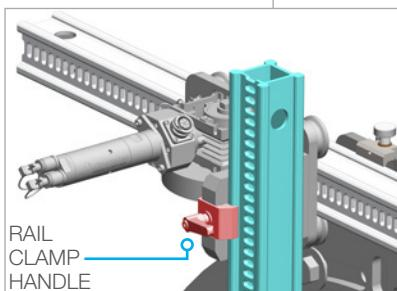

FIGURE 7
- Loosen the **Rail Clamp Handle** on the Horizontal Drive. Align the Idler Carriage on the lower rail so the Vertical Rail can slide into it. Slide the **Vertical Rail** with **(slots facing out)** down through the Horizontal Drive clamp and between the rollers on the idler carriage. Adjust the position of the vertical rail as required and secure the rail in place by tightening the **Rail Clamp Handle** on the Horizontal Drive. **(Figure 7)**